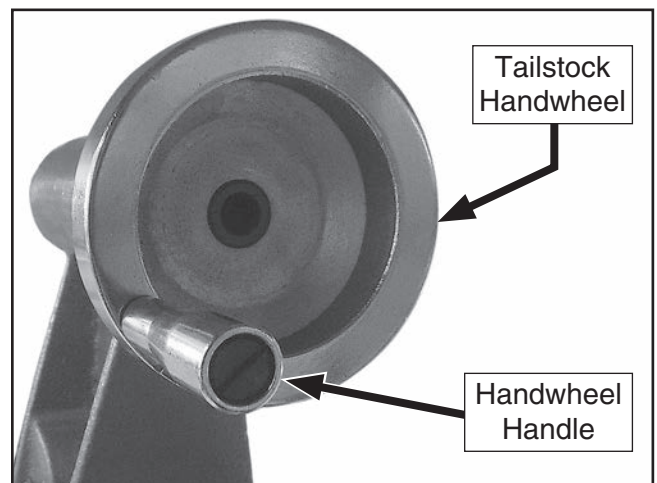

Figure 13. Tailstock handwheel handle installed.
2. Use flathead screwdriver to install handwheel handle into tailstock handwheel (see **Figure 13**).